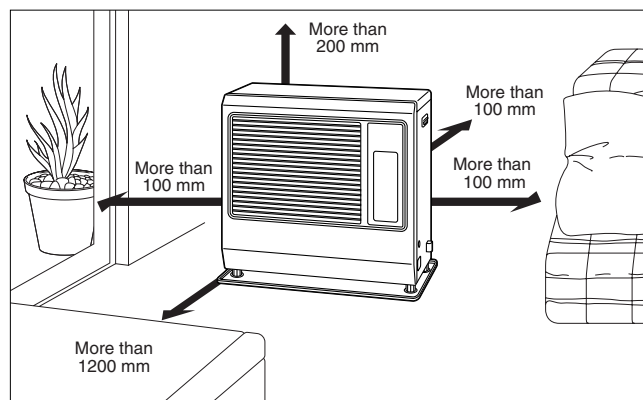

Fig. 1
1. Select heater location. Ensure minimum clearance's as indicated below between heater and nearest combustible materials. (See Fig. 1). Provide service access to clean the rear circulating Fan Guard, integral fuel strainer and reset button.